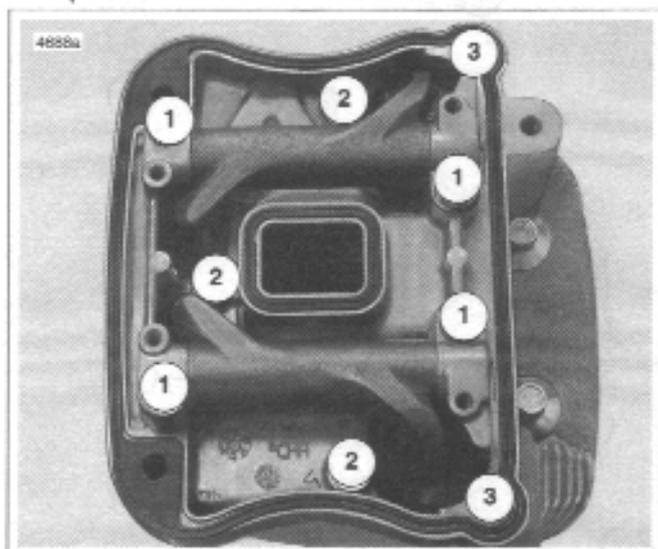

Figure 3-90. Lower Rocker Box Fasteners
9. See Figure 3-90. Install **new** gaskets with the bead facing up. Place lower rocker box assembly (with rocker arms and shafts) into position. Place push rods in rocker arm sockets.
10. See Figure 3-90. Install hardware attaching lower rocker cover to cylinder head in the following order. After loosely installing all fasteners, use a cross pattern on the four large bolts that fasten the lower rocker box to head to tighten and then torque to specifications. This will bleed the tappets. Finish tightening remaining fasteners. Fastener sequences, sizes and torque specifications are listed in Table 3-22.
- Tighten bolts (1) to 18-22 ft-lbs (24-30 Nm).
- Tighten bolts (2) to 135-155 in-lbs (15-18 Nm).
- Tighten bolts (3) to 135-155 in-lbs (15-18 Nm).